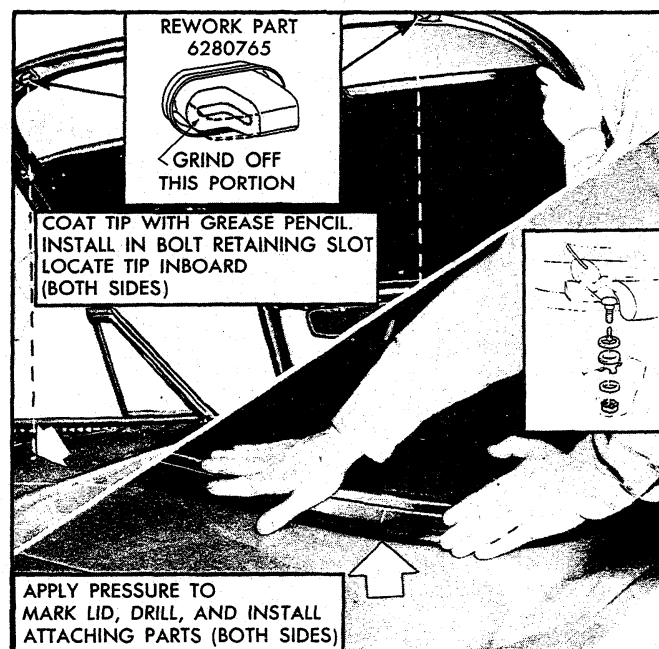

Fig. 113—Hardtop Attachments at Rear Bow
1. Rework two plastic retainers (#6280765) (used on Chevrolet and Corvair door inner panels for trim retention) as shown by Figure 113.